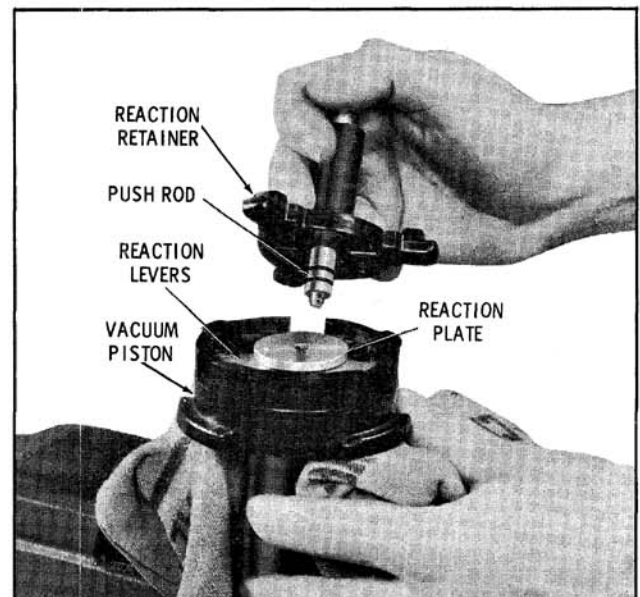
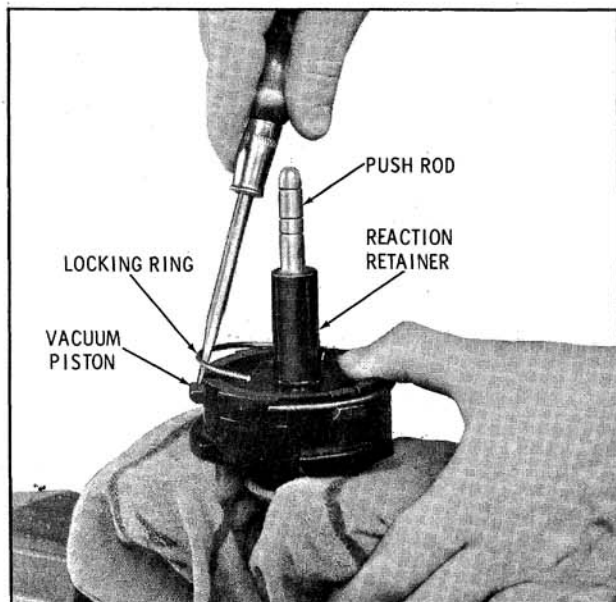

Fig. 11-40 Installing Reaction Retainer
Fig. 11-41 Installing Locking Ring
19. Position the reaction retainer and push-rod as shown in Fig. 11-40. While retaining pressure on the reaction retainer, install the locking ring as shown in Fig. 11-41.